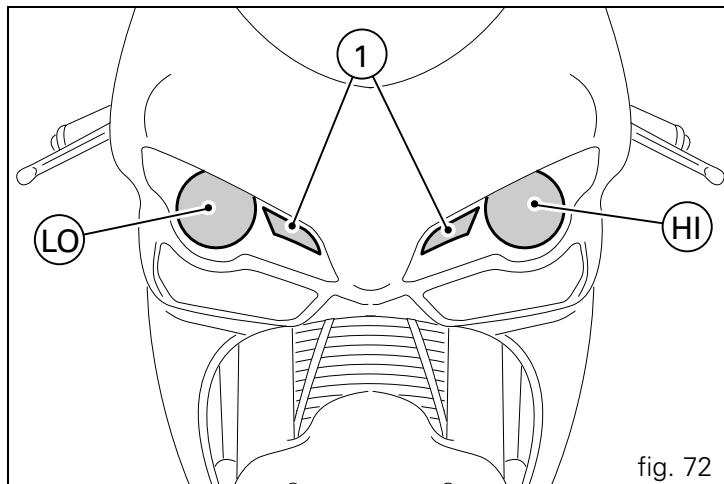

fig. 72
Before replacing a burnt-out bulb, make sure that the new one matches the voltage and wattage specifications in the "Electrical System" paragraph on page 105. Always check that the new bulb works before refitting removed parts. fig. 72 shows the position of the low beam (LO), high beam (HI) and side light (1) bulbs.